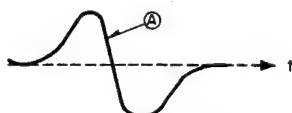

Fig. 6-6 S curve
- Output voltage ②① changes as negative → positive at this time.
- Further, the S curve of focus changes as shown in Fig. 6-6.
Focus servo is applied with point A shown in Fig. 6-6 as the actuation point. In general, the time when focus search is made and the focus servo switch is ON during passage through point A. Furthermore, ANDing is made with focus OK signal (FOK) in order to prevent maloperation.